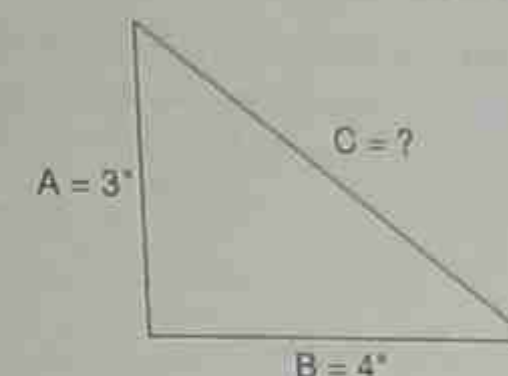
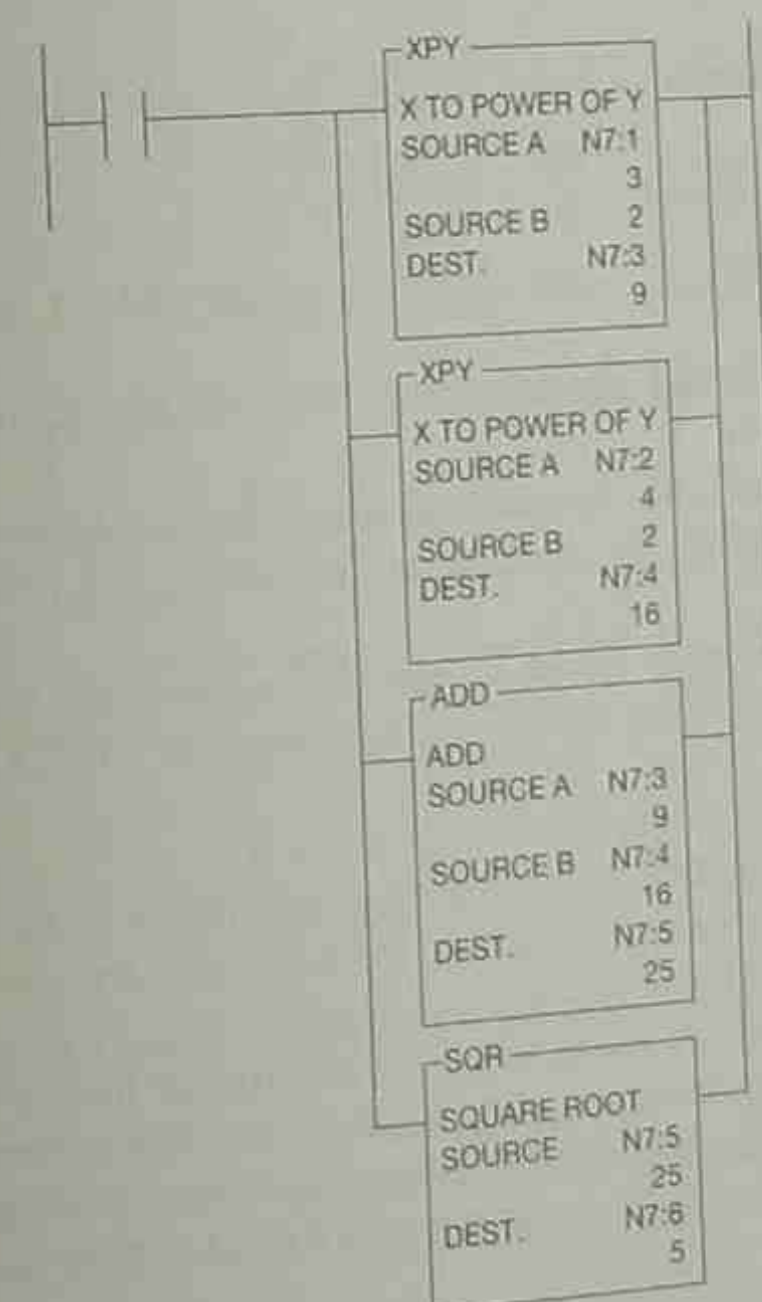

Figure 15-14 Solving the Hypotenuse of a Right Triangle Using the Pythagorean Theorem
Figure 15-15a Combining Math Instructions
An example of using more than one math instruction can be illustrated using the Pythagorean theorem which is used to find the hypotenuse of a right triangle. The theorem states that  $C^2 = A^2 + B^2$ . This formula, or theorem, can be transposed and rewritten  $C = \sqrt{a^2 + b^2}$ . Figure 15-14 shows a right triangle. Side A is 3" and side B is 4". Side C, the hypotenuse, has no measurement and is the unknown the theorem will solve.
Figure 15-15a shows how two XPY instructions, an ADD instruction, and an SQR instruction are used to find the dimension for side C of the right triangle shown in Figure 15-14. When the rung is true, the value in Source A (which is 3 from side A of the right triangle) of the first XPY instruction is increased by a factor of 2 ( $3^2$ ) and stores the value of 9 in word 3 of file N7. The next XPY instruction takes the dimension of side B, which is 4, and factors it by 2 ( $4^2$ ), then stores the answer (16) in word 4 of file N7. The ADD instruction now takes the values in source A and B and adds them together to get the answer of 25, as shown in word 5 of file N7. The last instruction, SQR, finds the square root of the value that is stored in word 5 of file N7. The value is 25, and the square root of 25 is 5. And, as we all remember from our high-school geometry class, if side A is equal to 3, and side B is equal to 4, then side C must be equal to 5. This is often referred to as a 3, 4, 5 triangle.